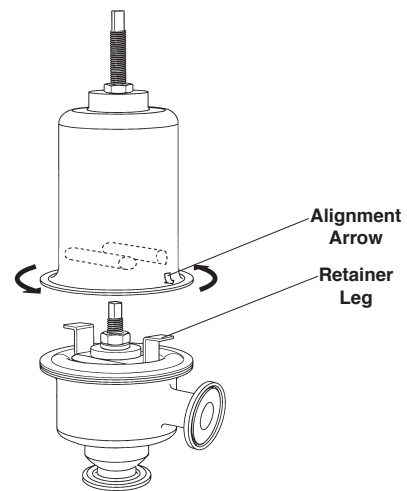

Fig. 3
3. Release spring tension by turning adjusting screw (1) fully counter-clockwise after first slackening lock nut (2).
5. Firmly hold edge of diaphragm (15) and body (14) and rotate spring chamber (3) through 90° (see Fig. 3). The arrow on the lower edge of the spring chamber can be used as a guide.
6. Remove spring chamber (3).
7. Remove spring pusher (4) and spring (5).
8. Holding flat section at top of main valve (13) with a wrench, remove diaphragm nut (6) and spring washer (7).
- 9.* Remove spacer ring (8), retainer (9), upper disc (10), diaphragm (15), and lower disc (12).
10. The main valve (13) can be removed through the regulator inlet.
11. Inspect valve head and seat. Re-lap or replace main valve (13) if necessary.
12. Inspect diaphragm (15) for wear and replace if necessary.
- a. Lower disc (12) has chamfered edge on the central hole to allow a seal to be made with the diaphragm (15) and main valve (13). ENSURE THAT UPPER (10) AND LOWER DISCS (12) ARE NOT TRANSPOSED, AND THAT BOTH ARE INSTALLED WITH ROUNDED EDGE FACING DIAPHRAGM.
- b. When spring chamber is replaced, line up arrow so that it is directly in front of one of the legs of the retainer (9) - see Fig. 3. Firmly hold diaphragm edge (15) and body (14) and rotate spring chamber (3) through 90°. This locks the diaphragm restraint in place and will prevent over-extension.